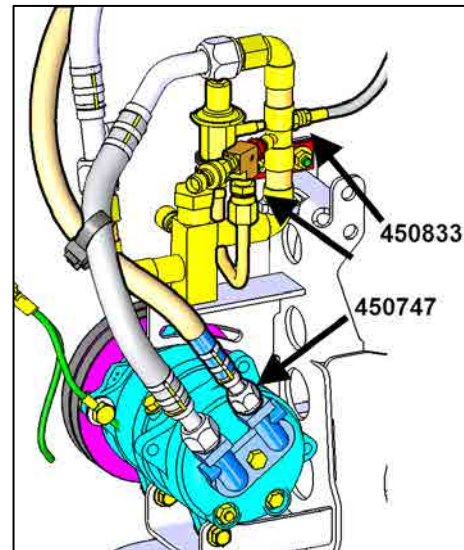

Figure 7
9. Connect #8 size hose #450747 to compressor high pressure outlet. (Fig. 7 & 8).
Connect #4 size hose #450833 to bypass valve. (Fig.7 & 8)